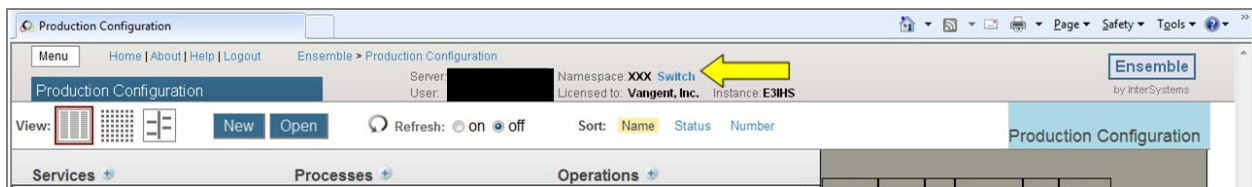

Figure 4-14: Switch link
4. Select the AGMPIxxx namespace by clicking the **Switch** link that appears at the top of the display area, as shown in Figure 4-14.